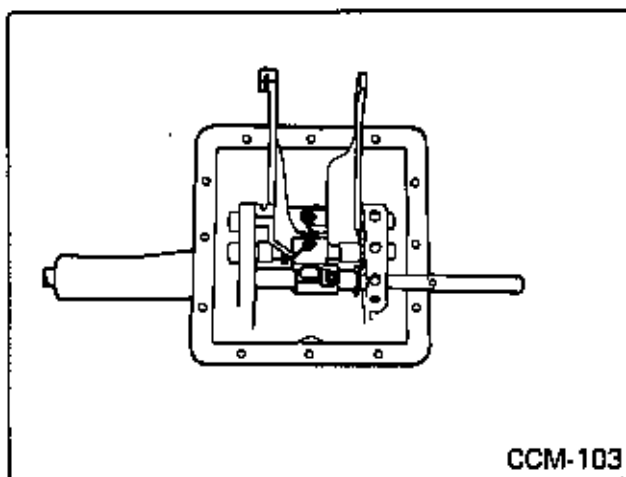

Fig. 98
1. Remove reverse lug locating screw lock wire and screw. Push reverse rail clear of over-shift spacers and lug. (Fig. 98)